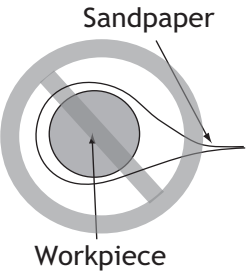

**Figure 35.** Example of mounting workpiece to a faceplate using a backing block.
5. Mount workpiece and backing block to faceplate, as described above. See example in **Figure 35**.